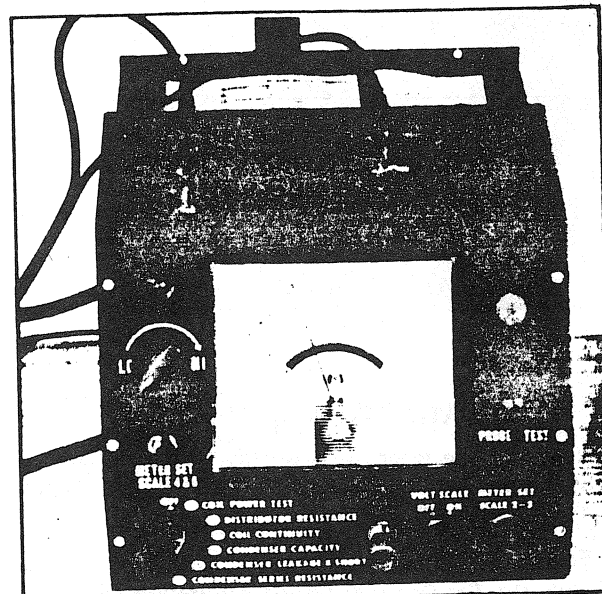

FIGURE 3
- Unscrew the two (2) screws on the cover of analyser.
- Read red figures on top of scale #1. Reading must not be less than 6.0 volts; if less, change battery. (Fig. 3).